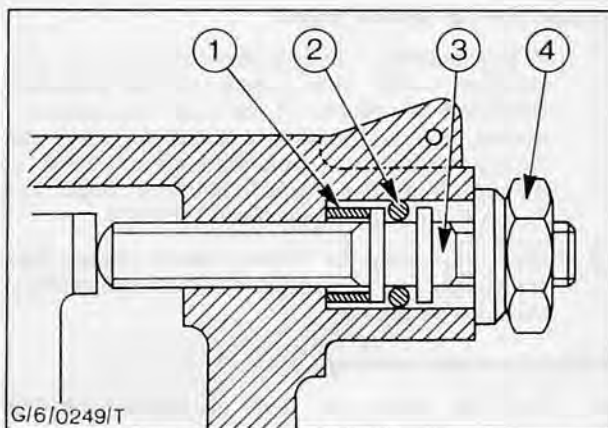

Fig. 5. Full load adjustment
4. Select a spacer that will allow the correct full load delivery but will only allow the adjustment screw to travel the maximum of $\frac{1}{3}$ of a turn further inwards, Fig. 5.